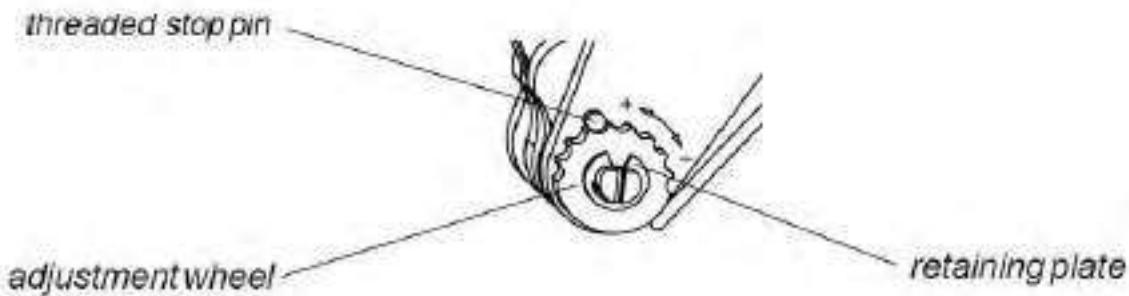

Figure 113
- (1) Open the tool handles and remove the two die retaining screws from the tool jaws.
- (2) Move the wire and insulation crimper dies (PN 539685-2), with the chamfers facing the front of the stationary jaws.
- (3) Insert a die retention screw through the jaw and die and tighten the screw so that the die is held in place, but do not tighten the screw completely at this point.
- (4) Place the lower die in the moving jaw of the tool frame. Install a die retention screw through the jaw and die and tighten the screw so that the die is held in place, but do not tighten the screw completely at this point.
- (5) Slowly close the tool handles, allowing the dies to mate and/or align. Continue closing the tool handles until the ratchet makes the fifth "click", then tighten both die retention screws until snug.
- (6) Install the locator assembly on the stationary jaw and tighten the hex nut.
- (7) Install the contact locator on the movable jaw and tighten hex nut.
- (8) Check the crimp heights. If necessary, adjust as follows:
- b. If the crimp height is greater than recommended, open the plier and remove the threaded stop pin with a screwdriver. Rotate the adjustment wheel COUNTERCLOCKWISE (+). If a looser crimp is required, rotate the adjustment wheel CLOCKWISE (-) (Figure 113).
c. Replace the threaded stop pin (Figure 113).